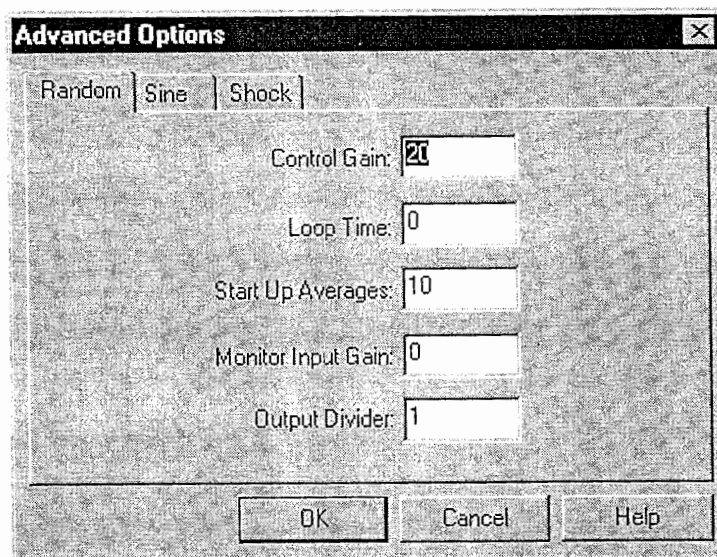

Figure 6-2. Advanced Options – Random Mode.
2. Select to open the Advanced Options window. See Figure 6-2.
The Random mode advanced settings adjust the internal operations of WinVCS during the Random mode. See Figure 6-2. The Random mode fields are described below.